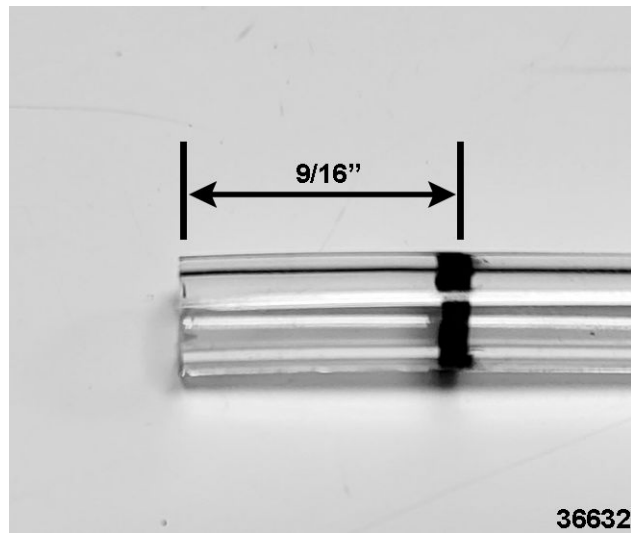

Fig. 88
1. Measure and mark $9/16$ " from the end of tubes (Fig. 88).